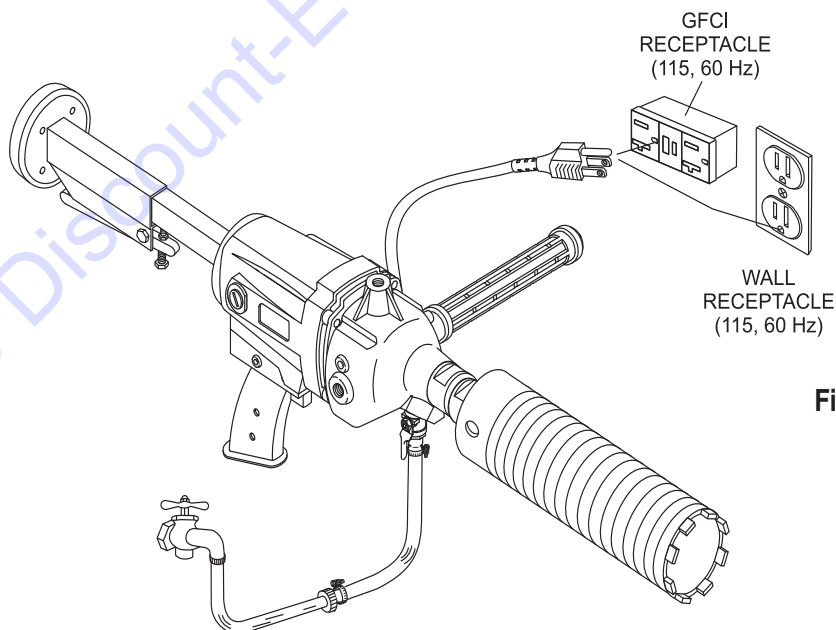

Figure 9. Connecting the Power
3. Place the core drill against the surface (Figures 9 and 10) to be drilled. Hold drill firmly, and squeeze the power ON/OFF switch to begin drilling.